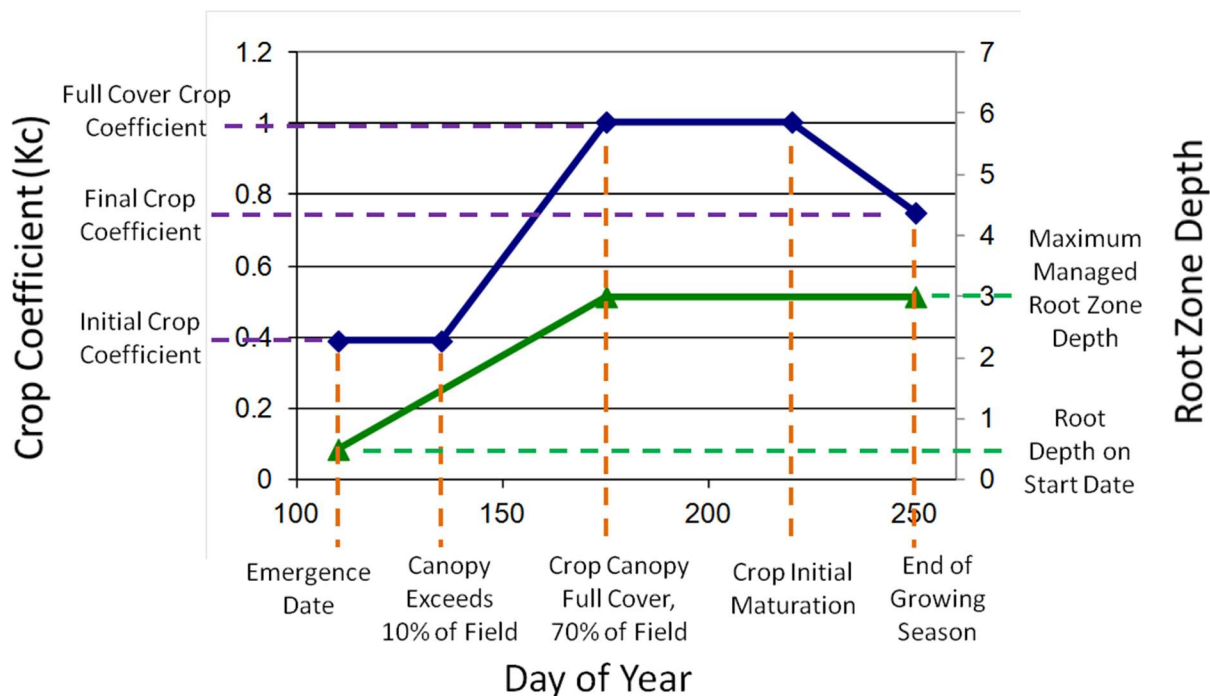

Figure 24. How crop coefficients and root growth are defined by the parameters in Field Settings.
**Planting/Emergence Date:** Date the plant that the crop emerges and/or the plant starts using water. This is the start date for the soil water budget model. (See Figure 24.)
**Crop Canopy Cover Exceeds 10% of Field:** The date that crop water use starts increasing. (See Figure 24.)
**Crop Canopy Exceeds 70% of Field (Full Cover) Date:** The date that the crop canopy exceeds 70% - 80% of the field area or shades 70% - 80% of the ground area. At this point the crop coefficient reaches a maximum and stays at this maximum until the Initial Maturation Date (below). (See Figure 24.)
**Crop Initial Maturation Date:** After this date the crop begins to dry up, senesce or otherwise shut down and water use begins to decrease. (See Figure 24.)
**End of Growing Season Date:** Water use stops on this date. Often this coincides with harvest, or the first killing frost. This is the last date of the model. (See Figure 24.)
**Root Depth on Start Date:** The effects of a growing root depth is included in the soil water budget model. This is the root depth in inches on the starting or plant emergence date. (See Figure 24.)
**Maximum Managed Root Zone Depth:** This is the maximum root depth reached in the season. It is assumed that the plant root reaches this depth on the Crop Canopy Full Cover Date. (See Figure 24.)
**Initial Crop Coefficient:** The crop coefficient ( $K_c$ ) from emergence to the 10% Cover date. (See Figure 24.) This  $K_c$  is based on alfalfa reference  $E_{Tr}$ .
**Full Cover Crop Coefficient:** The crop coefficient (Kc) at full cover. This is the peak, or maximum crop coefficient. (See Figure 24.) This Kc is based on alfalfa reference ETr.
**Final Crop Coefficient:** Crop coefficient (Kc) at the end of the season. (See Figure 24.) This Kc is based on alfalfa reference ETr.